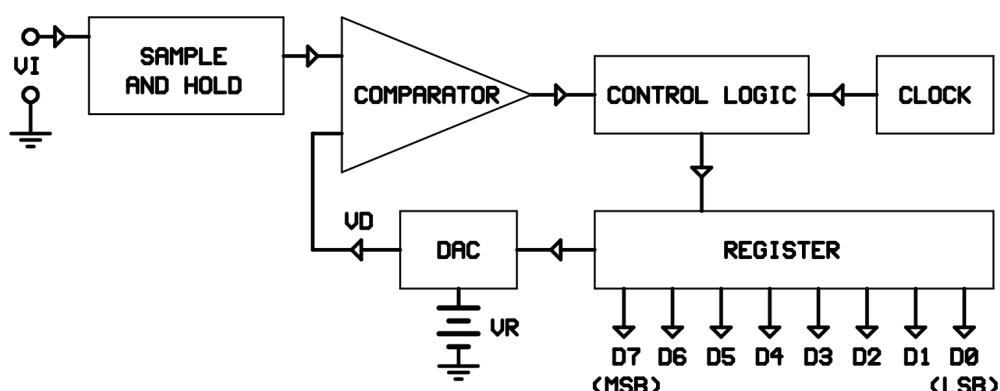

Figure 4.1.3
In Figure 4.1.3, a block scheme of a successful approximation ADC (**ADC 0804**) with an 8 bit resolution is shown. During circuit conversion, **SH Sample and Hold** prevents changing of input signal. **Control Logic** adjust the bits starting from the least significant bit (LSB) until the highest significant bits MSB (Most Significant Bit) (**D0-D1-D2-D3-D4-D5-D6**) to "0", and the highest significant bit (D7) to "1". This digital data is applied to the Digital Analog Converter (DAC) which is situated in ADC 0804 integration. At the same time, a reference voltage (VR) is applied from outside to the digital analog converter.